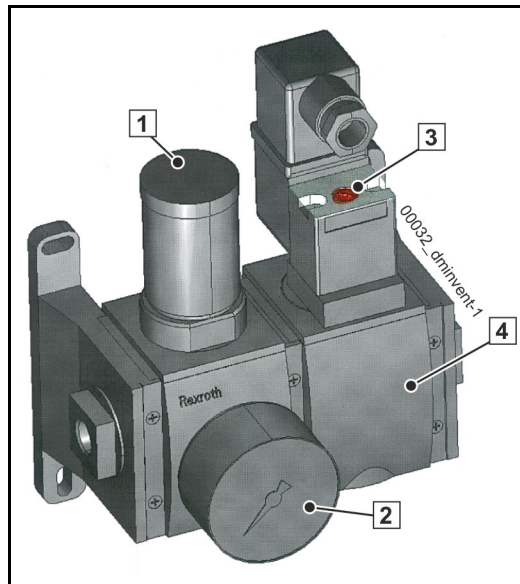

Fig. 446 Compressed air module
In the event the electrical control system fails, the solenoid valve (4) can be switched manually using an emergency control (3) (**Fig. 446**).
- Read the pressure gauge (2) (**Fig. 446**) on the pressure release valve.
- Set the pressure to 5 bar by turning the set screw (1).